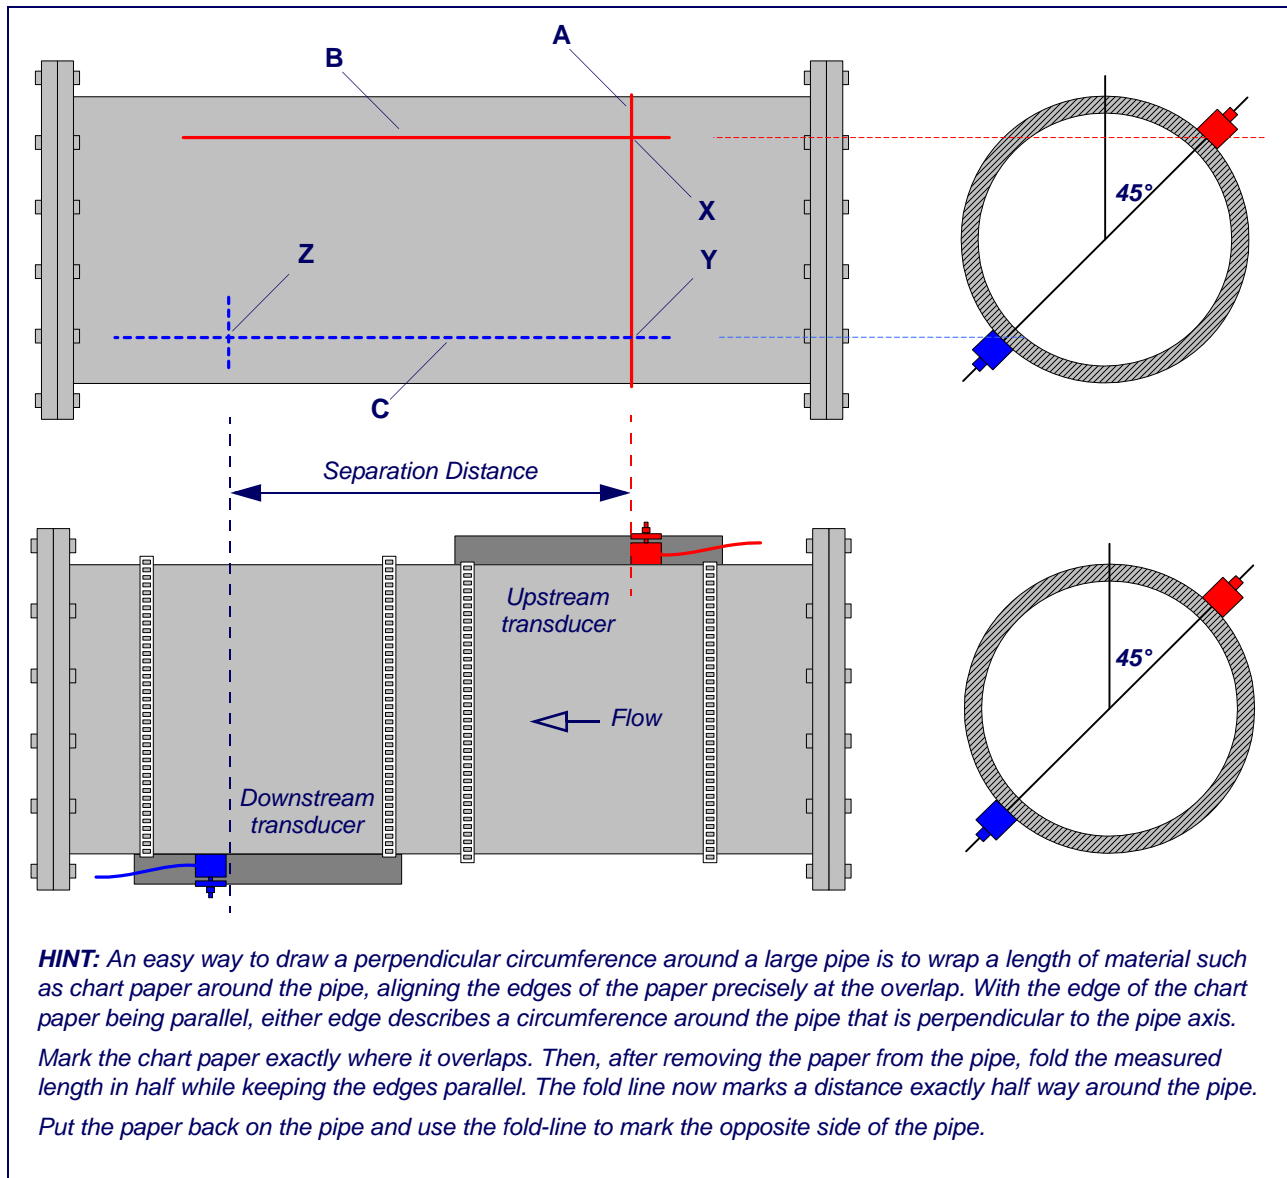

Figure 2.13 Transducer mounting for diagonal mode of operation
This mode of operation requires two transducer guide rails fitted on opposite sides of the pipe, as shown in Figure 2.13. Notice that the guide rails are still fitted on a 45° axis with respect to the top of the pipe. When used in conjunction with type 'A' or 'B' transducers, the guide rails used are identical to that shown above, and the second guide rail and fixings must be purchased as an option kit.
2. Using whatever means available, mark a reference line around the circumference of the pipe approximately where the upstream transducer is to be fitted – line 'A' in Figure 2.13.
5. From point 'Y', draw a three foot long line ('C') perpendicular to 'A' and parallel to the pipe axis. This is shown as a dashed line in Figure 2.13 as it is on the rear of the pipe.